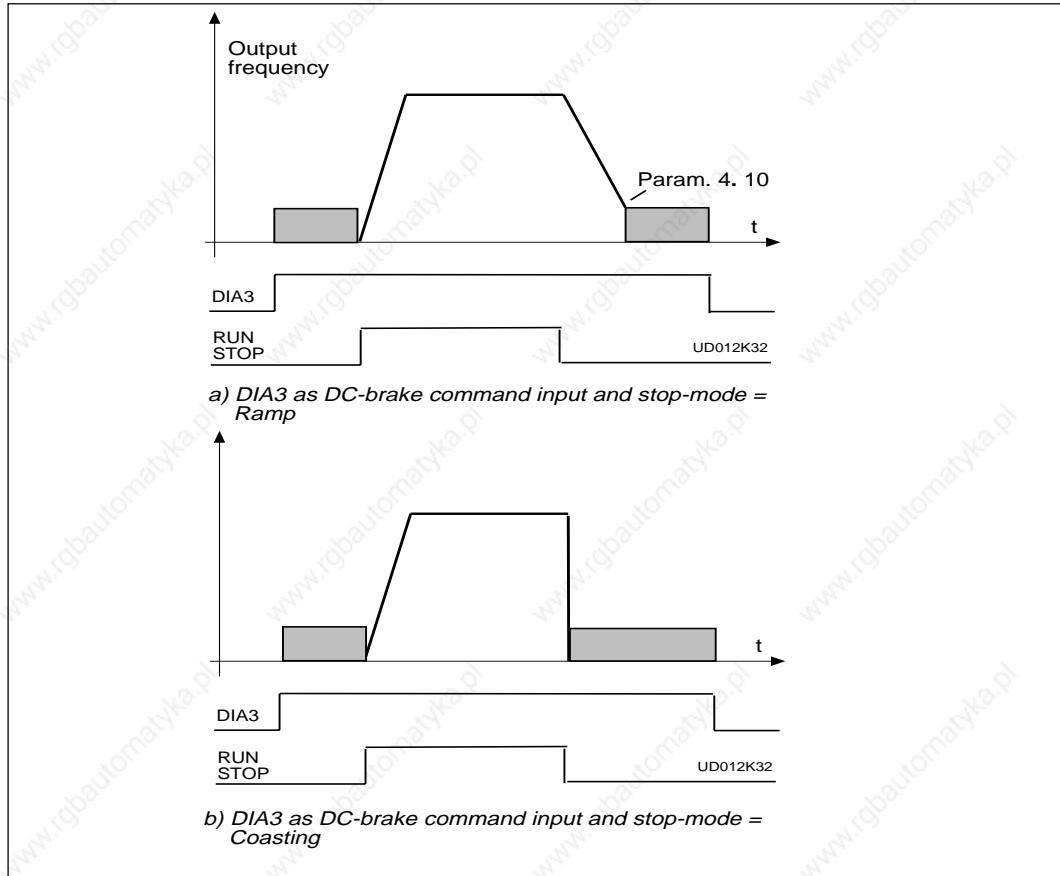

Figure 5.5-4 DIA3 as DC-brake command input: a) Stop-mode = Ramp,
- 9: DC-braking command contact closed = In Stop mode, the DC-braking operates until the contact is opened, see figure 5.5-4.